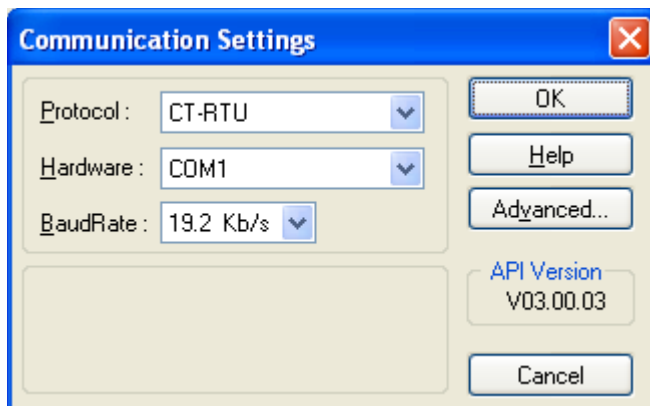

FIG. 8
6. Select the appropriate hardware communication port in the Communication Settings window and click OK button. See FIG. 8.